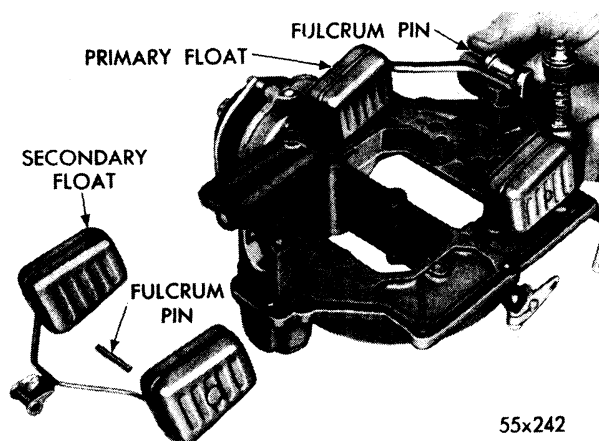

Fig. 34—Installing Primary Float
- (21) Slide the choke lever over end of choke shaft with the lever pointing toward accelerator pump shaft. Snug down screw (to be adjusted and positioned later).
- (22) Invert the air horn and install the primary needle valve in its seat.
- (23) Slide the primary float in position and install fulcrum pin. (See Fig. 34.) Check the float setting as follows: Be sure each needle is installed in its original seat.